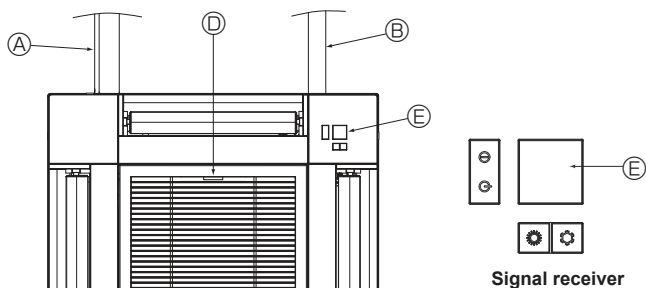

Fig. 10-17
10.5. Installing the intake grille (Fig. 10-17)
- ④ Refrigerant piping of the main unit
- ⑤ Drain piping of the main unit
- ③ Corner panel
- ④ Position of the levers on the intake grille when sent from the factory.
- ⑤ Receiver